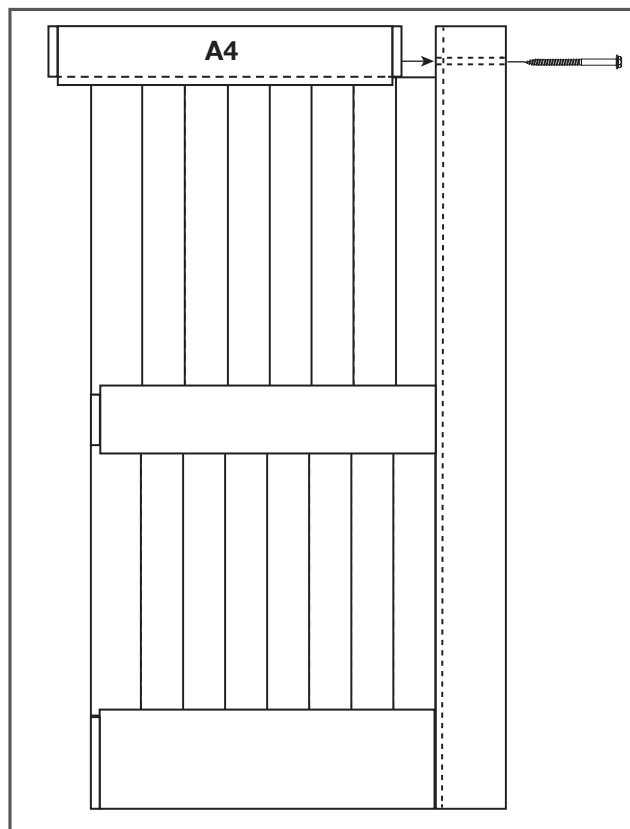

Figure 5
5. Slide the top rail (A4) lower groove over the top of the upper slats. Tap with a rubber mallet into the right side rail. Attach the upper rail to the right side stile using a socket wrench with a 7/16" socket and one lag screw (D) (Figure 5).